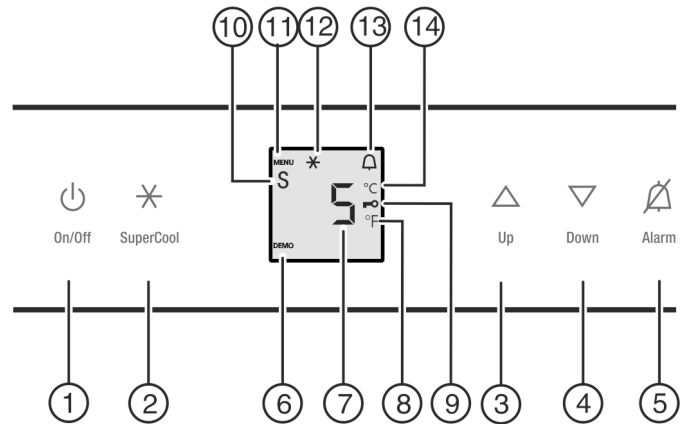

Fig. 2
- ▶ Press the On/Off button *Fig. 2 (1)*.
- ▶ To activate setting mode: Press and hold the SuperCool button *Fig. 2 (2)* for approx. 5 s.
- ▷ The Menu symbol *Fig. 2 (11)* lights up.
- ▶ Using Up button *Fig. 2 (3)*/ Down button *Fig. 2 (4)* select °.
- ▶ To confirm: Briefly press the SuperCool button *Fig. 2 (2)*.
- ▶ To exit setting mode: Press On/Off button *Fig. 2 (1)*.
- ▶ Select setting mode: Press and hold the SuperCool button *Fig. 2 (2)* for approx. 5 seconds.
- ▶ Using the Up *Fig. 2 (3)* or Down button *Fig. 2 (4)*, select c.
- ▶ Press the SuperCool button *Fig. 2 (2)* briefly to confirm.
- ▶ To switch on the child proof lock, press the SuperCool button *Fig. 2 (2)* briefly.
- ▷ The Child safety symbol *Fig. 2 (9)* lights up. c flashes on the display.
- ▶ To switch the child proof lock off, press the SuperCool button *Fig. 2 (2)* briefly.
- ▷ The Child safety symbol *Fig. 2 (9)* goes out. c flashes on the display.
- ▶ To deactivate setting mode: Press the On/Off button *Fig. 2 (1)*.
- ▶ Press Alarm button *Fig. 2 (5)*.
► To activate setting mode: Press and hold the SuperCool button *Fig. 2 (2)* for approx. 5 s.
▷ The Menu symbol *Fig. 2 (11)* lights up.
► To access the Sabbath mode function: Briefly press the SuperCool button *Fig. 2 (2)*.